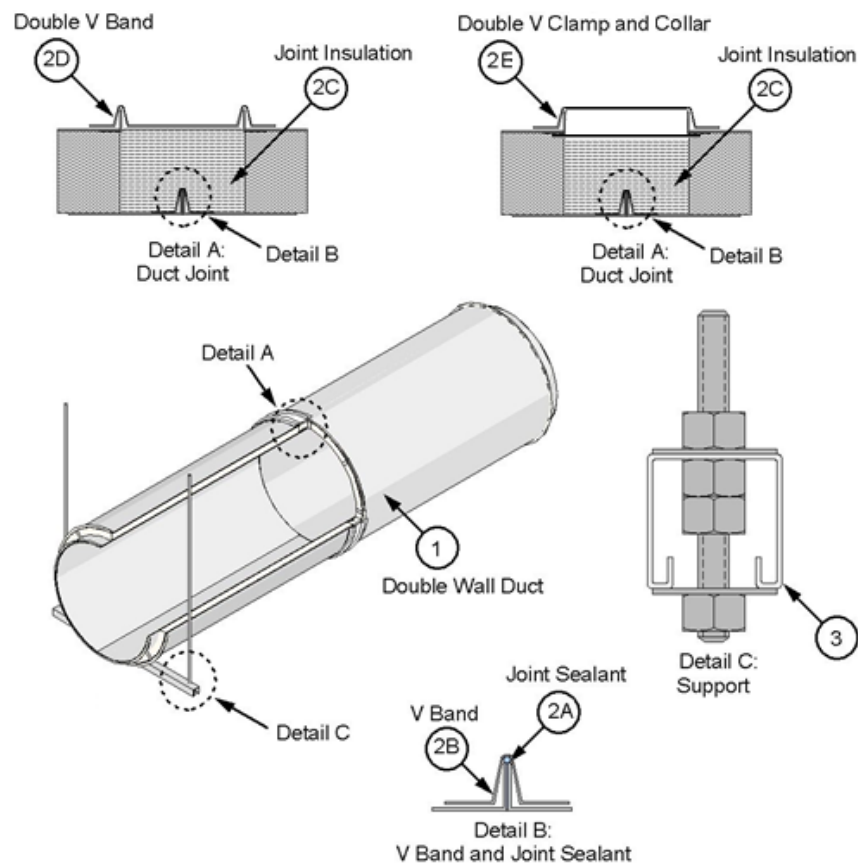

Figure 1. Double Wall Duct and Horizontal Support
- B. **V BAND** – Use the supplied V band (see Figure 1). Place the loose V band, filled with joint sealant (Item 2A), over one of the inner duct flanges. Join to the other inner duct flange with the continuous bead of joint sealant (Item 2A) and rotate slightly to ensure complete coverage of joint sealant (Item 2A) on flanges. Ensure that the flanges are located within the V band and that the V band hardware is not at the bottom side of a horizontal duct. Tap the V band while tightening the integral 1/4-20 hardware to ensure flanges are aligned and pulled together. Tighten to 40-60 in.lbs.
- D. **DOUBLE V BAND** – Use the supplied double V band (see Figure 1) for grease duct diameters ≤ 24 in. Place double V band with the grease duct outer shell flanges seated in the V band; tighten integral 1/4-20 hardware to 40-60 in.lbs.
- E. **DOUBLE V CLAMP AND COLLAR** – Use the supplied double V clamp and collar (see Figure 1) for grease duct diameters > 24 in. Use the sheet metal collar to retain the joint insulation; overlap collar ends and fasten together with min. two min. size #6 sheet metal screws. Place double v clamp with the grease duct outer shell flanges seated within the clamp recess; tighten integral 1/4-20 hardware to 40-60 in.lbs.
and two min. 1/2 in. diameter, threaded steel rods connected using Grade 5 hex nuts and 1/2 in. hardened washers (see Figure 1, Detail C). For grease duct diameters > 24 in., use supplied 12 GA steel saddles fastened to the Unistrut® channels with supplied 5/16-18 hardware. Connect the threaded steel rods to the bottom of the floor assembly using an attachment method designed to carry the weight of the pre-fabricated grease duct (Item 1) under a fire load equivalent to ASTM E 119 time-temperature curve for a 2 hour period. Place one threaded steel rod at each end of the supporting cross-member. Center the pre-fabricated grease duct (Item 1) on the cross-member. Space the threaded steel rods a max. of 8 in. from surface of the pre-fabricated grease duct (Item 1). Cut the cross-members such that each extends a min. 1-1/2 in. past the threaded steel rods. Space horizontal supports a max. of 84 in. on center (oc) for ducts with nominal diameter ≤ 16 in., and a max. of 60 in. oc for nominal 18 in. to 36 in. diameter ducts.